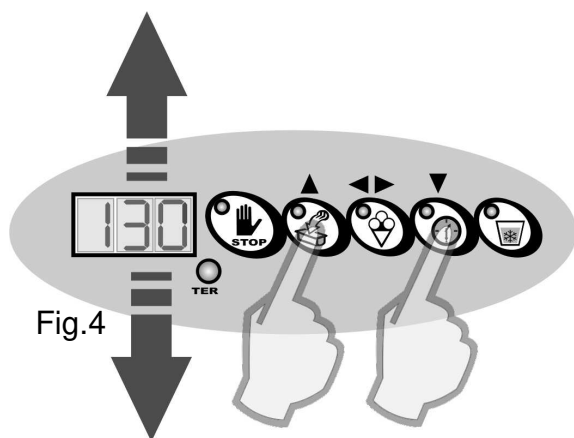

Fig.4
- The LEDs of the UP, Confirm and DOWN keys light up and the numbers relative to the consistency setting to be configured appear on the display, expressed by a numerical value between 120 and 180: press the UP and DOWN keys to increase or decrease the value. Higher consistencies correspond to high numbers, lower consistencies correspond to low numbers (fig.4).